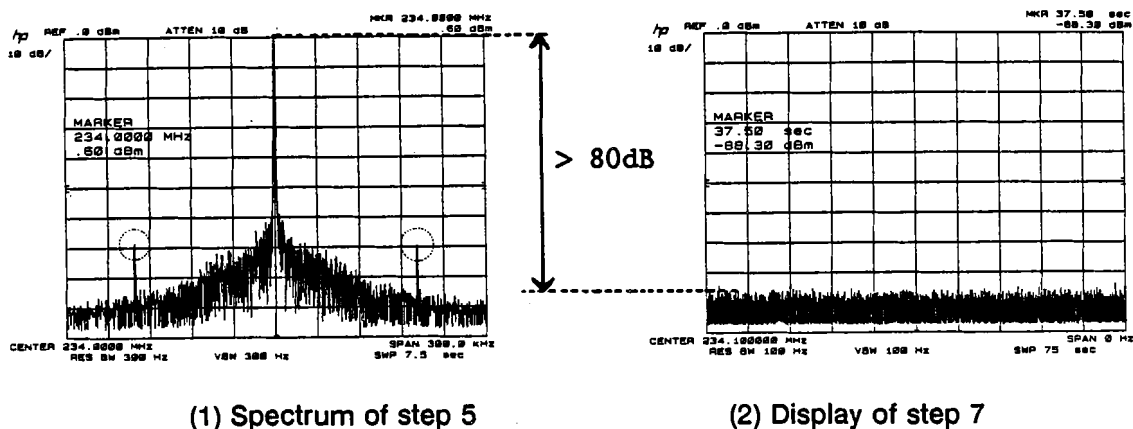

Figure 3-36. 100 kHz Spurious Spectrum
5. Note the Spectrum Analyzer's reading of the 234 MHz fundamental signal level (Figure 3-36 (1)).